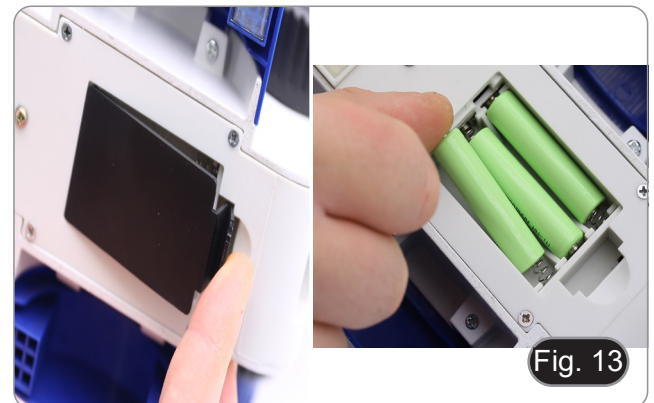

Fig. 13
1. Open the battery compartment placed in the lower part of the frame. (Fig. 13)